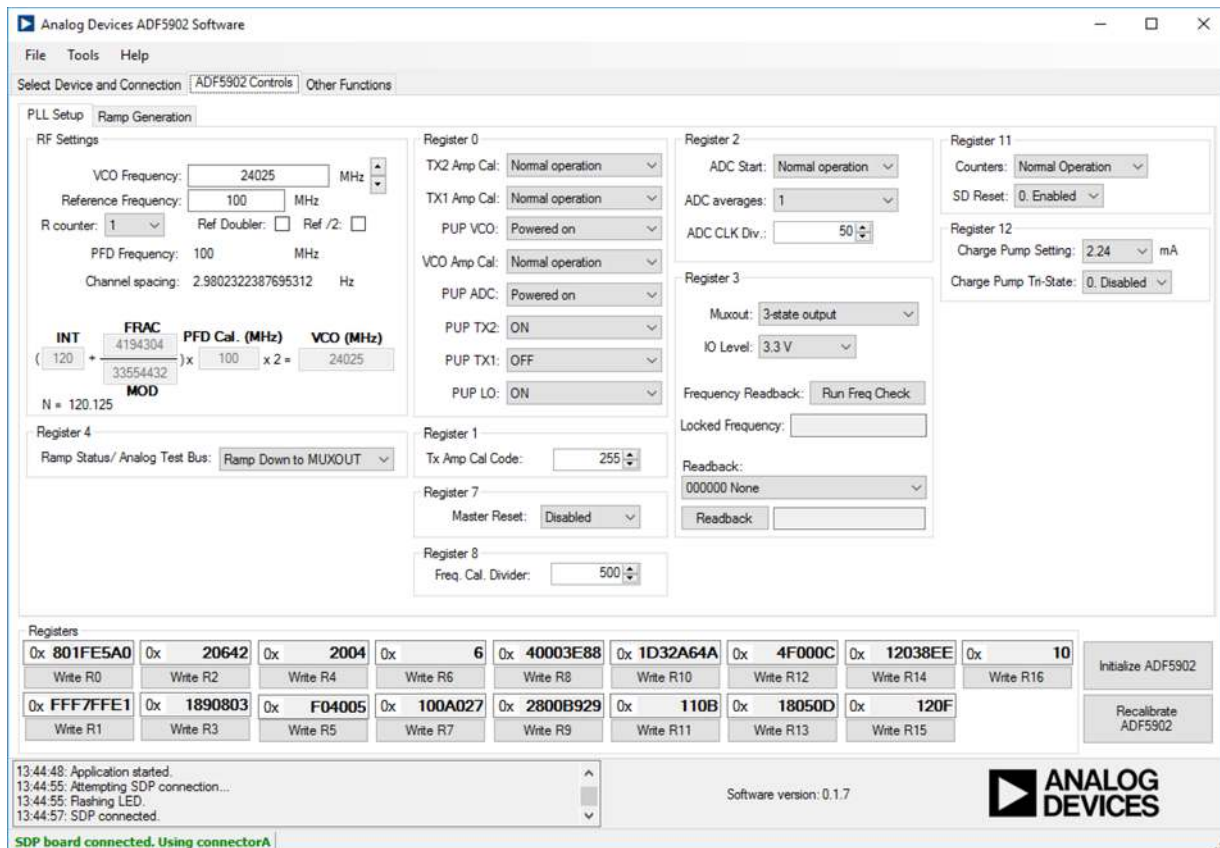

Figure 4. PLL Software Window Display, ADF5902 Controls
9. Click the **ADF5902 Controls** tab, and then click **Initialize ADF5902** in the bottom right corner of the window (see Figure 4).
Click the **ADF5902 Controls** tab in the **PLL software** window (see Figure 4) to select the user configurable register settings. Consult the register descriptions of the **ADF5902** data sheet for details. Default settings are recommended for most registers.
1. In the **PLL Setup** tab (see Figure 4), set the reference frequency (RF) settings for the PLL in the **RF Settings** section, and the required settings for the TX2, TX1, and LO outputs in the **Register 0** section.
To program any of the **ADF5902** registers, click the button under each register value in the **Registers** section at the bottom of Figure 4 to write that value to the device. For example, to write the value for Register R0, click the **Write R0** button.